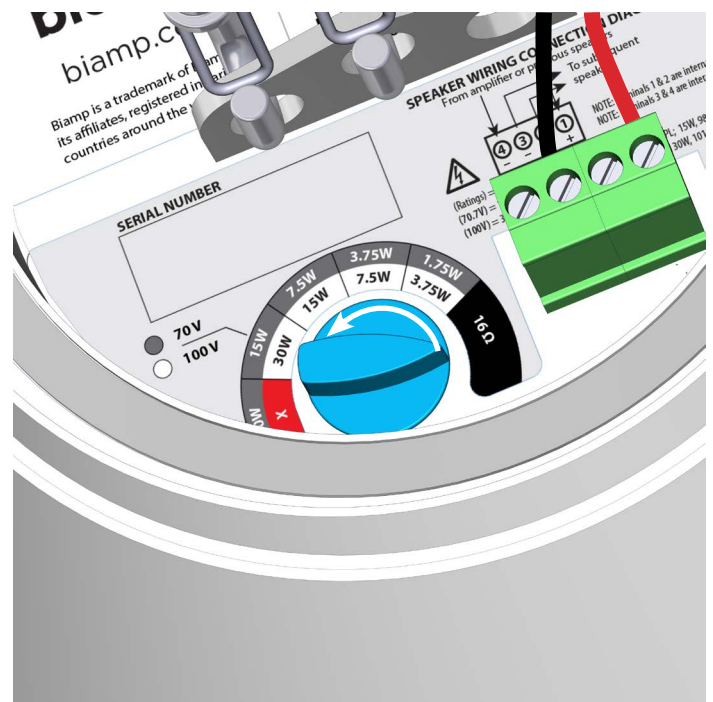

Figure 7.
- Rotate knob to select the appropriate power tap setting on the top surface of the loudspeaker (Figure 7).